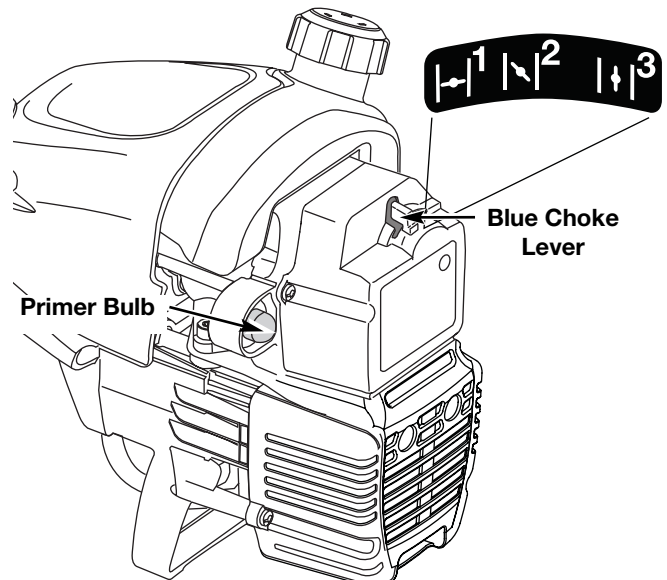

Fig. 7
2. Fully press and release the primer bulb 10 times, slowly. Some amount of fuel should be visible in the primer bulb and fuel lines (Fig. 7). If you can't see fuel in the bulb, press and release the bulb as many times as it takes before you can see fuel in it.
3. Place the blue choke lever in **Position 1** (Fig. 7).
5. Place the blue choke lever in **Position 2** (Fig. 7).
8. Once the engine is warmed up, place the blue choke lever in **Position 3** (Fig. 7). The unit is ready for use.
**IF...** the engine hesitates, return the blue choke lever to Position 2 (Fig. 7) and continue warm-up.